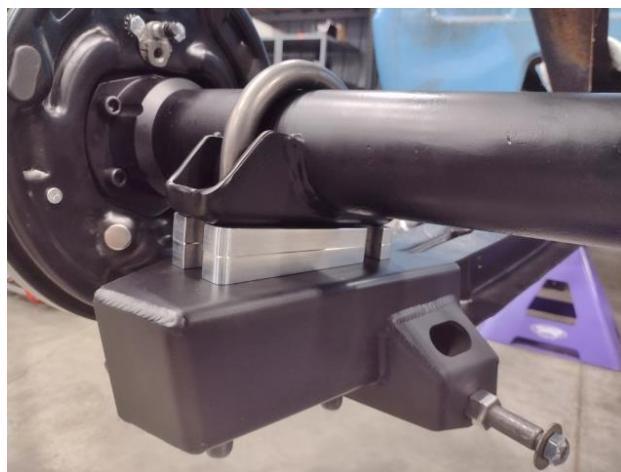

Figure 10 - Tighten U-Bolts
15. Tighten the U-bolts evenly on both sides of the truck (Figure 10). **NOTE:** The images below show the Detroit Speed Anti-Squat Kit with pinion angle spacers (PN: 040119DS).